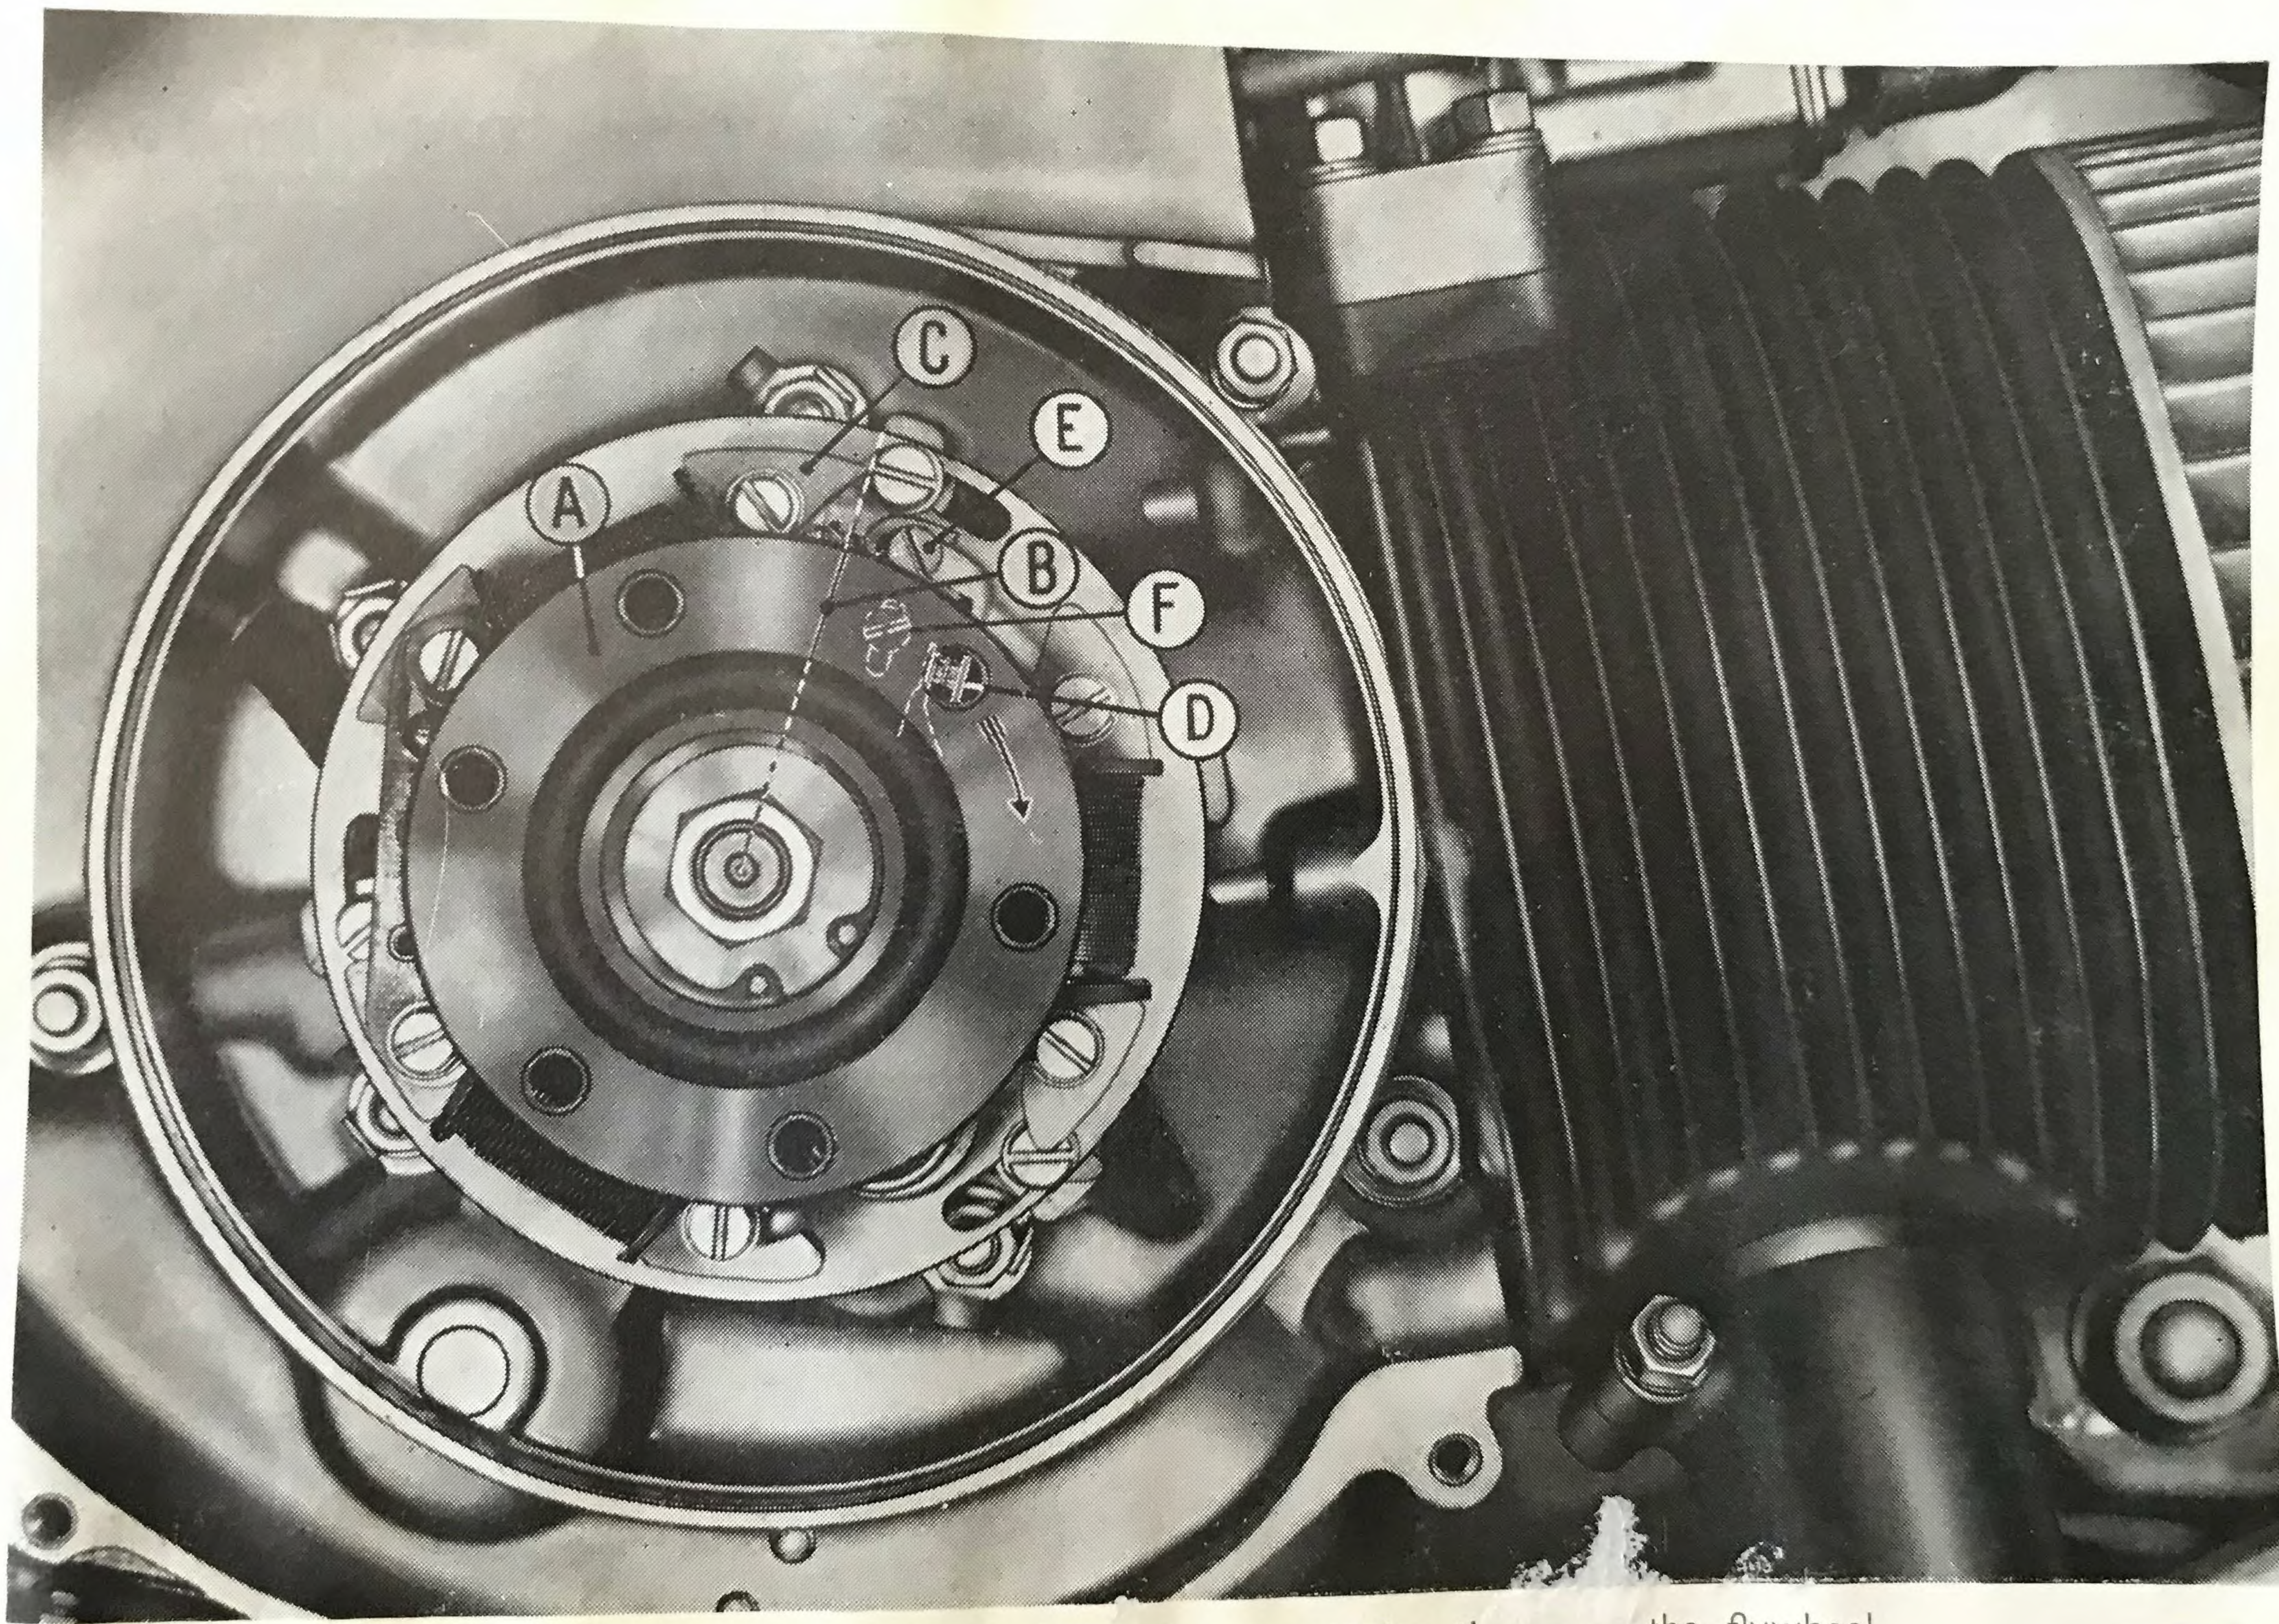

Fig. 18 - Operations for checking the «magnetic» ti the flywheel.
| <p>CHECKING AND SETTING THE FLY-WHEEL MAGNETIC TIMING</p> | <ol style="list-style-type: none"> 1) Take off the rotor of the flywheel by removing the nuts securing it to the hub « A » (on the Fig. 18 the rotor is already dismantled). 2) Selector in neutral, rotate by hand the hub « A » and line up the mark « B » with the centre of the crankshaft and with the extremity of the coil « C » (see Fig. 18). 3) At the position as per point 2) the contact breaker points « D » should start to open; the max. opening, by rotating again the hub « A » by hand, should be between the limits 0.3 to 0.5 mm. (0.011' to 0.019"). 4) If the conditions as per point 3) are not obtained, unscrew the screw « E » and act on the eccentric « F » until fo-resaid conditions are obtained. | <p>In order not to disturb ignition timing, do not slacken the stator plate or coil securing screws.</p> <p>Ensure screw « E » is tightened before refitting rotor.</p> |
- 3) - Clean, and if necessary, reset the contact breaker points (Fig. 18). To avoid faulty ignition or other defects **consult your Service - Station for this operation.**